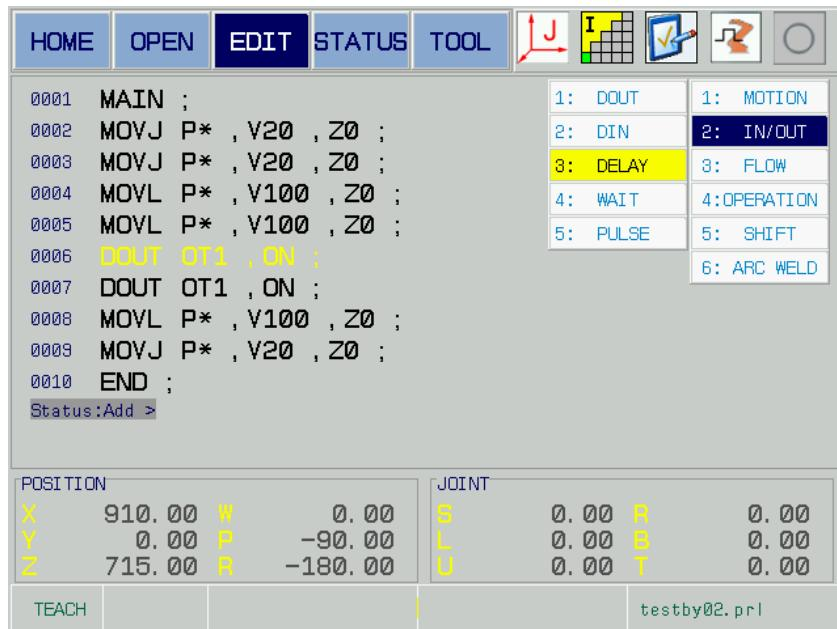

Fig. 5-29
2. Enter the Add mode by [ADD]. Move the cursor matching with the number key 2 or up/down direction button, select the type of the command specified — {2: IN/OUT}. Move the cursor to the subcommand by left/right or [SELECT] button, then select the subcommand —{3:DELAY} by up/down direction button or number key 3; in this case, the system may insert the delay command DELAY by [SELECT]; refer to the Fig. 5-29.